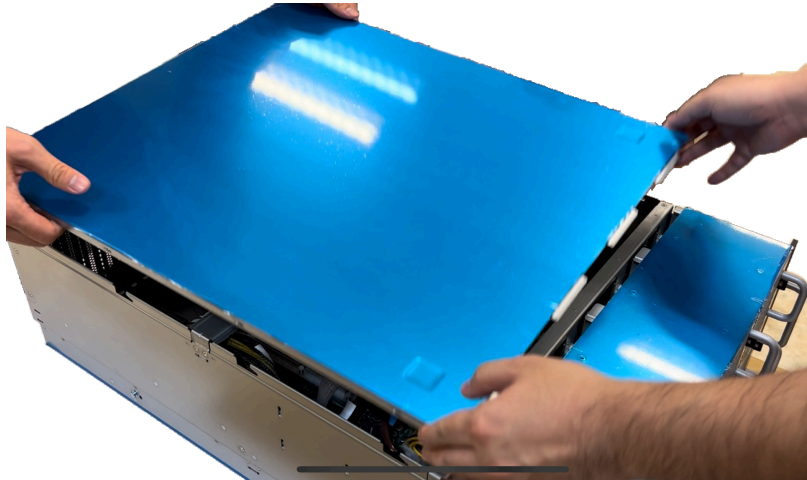

Figure 29. Removing the Top Cover to Access the Internal Components
2. Slide the cover backward to expose internal components (refer to Figure 29).